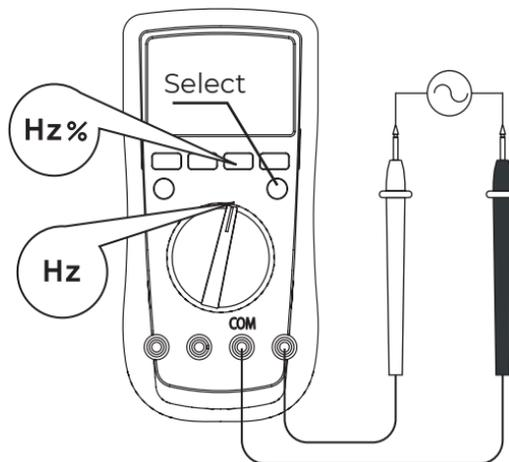

figure 8
G. Frequency Measurement (See figure 8)